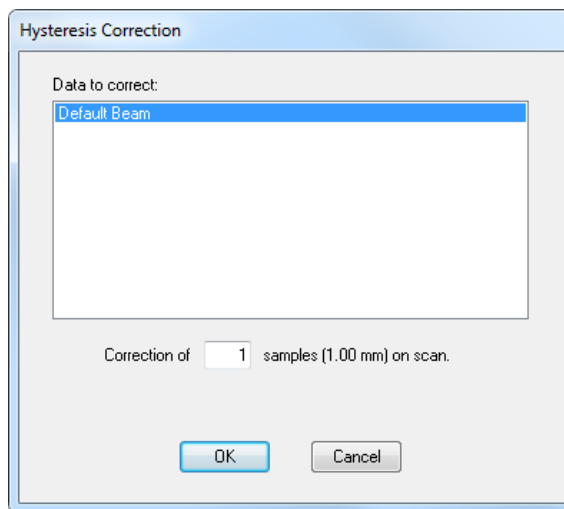

Figure 7-83 The Hysteresis Correction dialog box
4. In the menu, select **Processing > Hysteresis correction** to display the **Hysteresis Correction** dialog box (see Figure 7-83 on page 426).